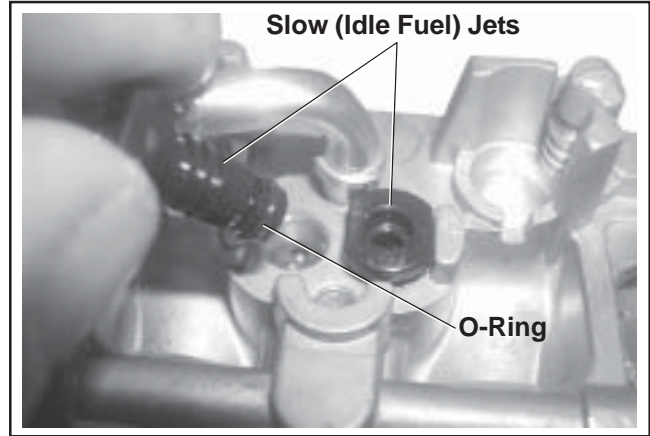

**Figure 5-51. Main Jets and Nozzles Removed.**
3. Use an appropriate size flat screwdriver, and carefully remove the two main jets from the carburetor. Note and mark the jets by location for proper reassembly. The main jets may be size/side specific. After the main jets are removed, the main nozzles can be removed out through the bottom of the main towers. Note the orientation/direction of the nozzles. The end with the two raised shoulders should be out/down adjacent to the main jets. Save the parts for cleaning and reuse. See Figure 5-51.